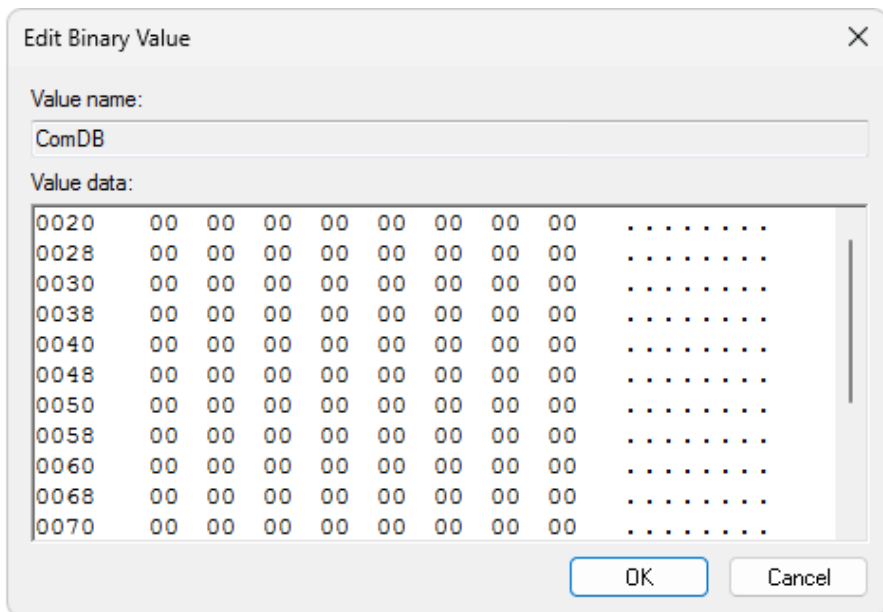

Fig. 15: Registry Editor - modifying ComDB
- Right mouse click on the **ComDB** name and select *Modify...* You will be presented with similar data as in **Fig. 15** on pg. 13.